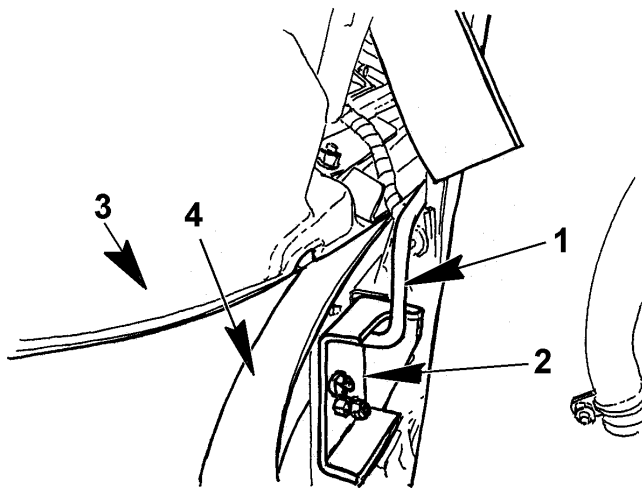

Figure 23 Torsion Bar End Stop Bracket
14. After removing upper end of torsion bar, locate and remove the lower end of torsion bar from chassis end stop bracket (Figure 23, Item 2).
7. Beginning on the passenger side of the vehicle, locate and replace the hood torsion assist bars (Figure 23, Item 1) in the frame torsion bar stop bracket (Figure 23, Item 2) at the side of the frame rail.